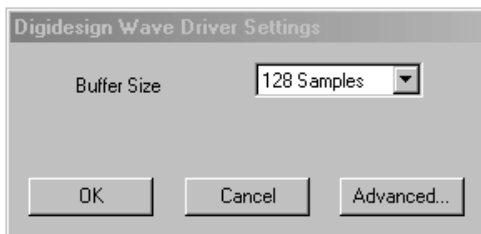

Figure 5. Digidesign WaveDriver Settings dialog
- 11 You should now see the WaveDriver Settings Dialog (see Figure 5 on page 102).